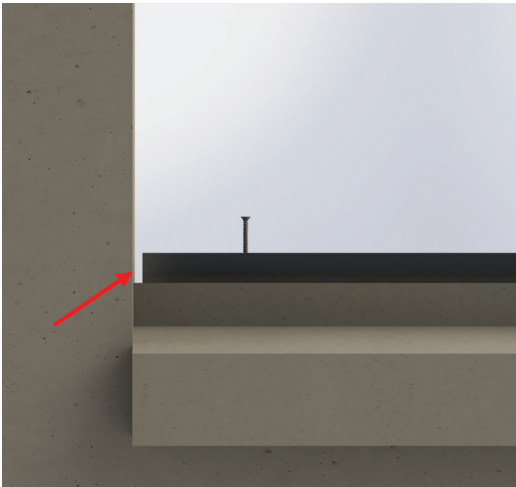

Fig. 6
- Make sure to center the U-channel in opening to allow for the end dams to slide over the ends. (Fig. 6)